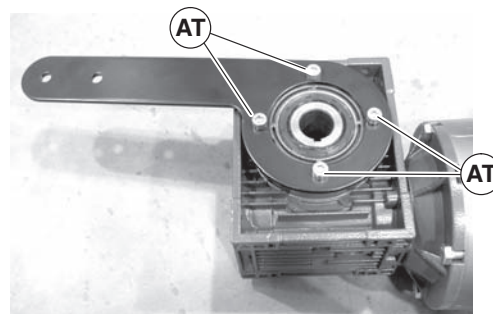

Figure 18
2. If required, change gearmotor position by removing four (4) screws (Figure 18, item AT). Rotate gearmotor mounting plate to other position and replace screws (AT). Tighten to 200 in-lb (22.5 Nm).